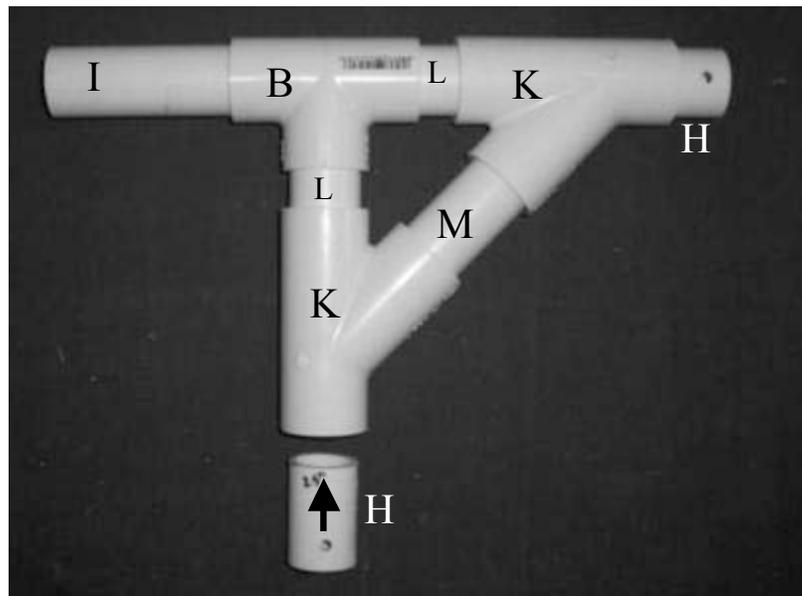

FIGURE 12 – Step 8 – Wheelchair Side Frame.
**Step 8.** Coat the inner surface of the remaining opening of the vertically oriented Part K with PVC glue and insert Part H (end without drilled hole) into the opening, making sure to align the holes at the midpoint as shown in Figure 12. Use the mallet to seat the connection.